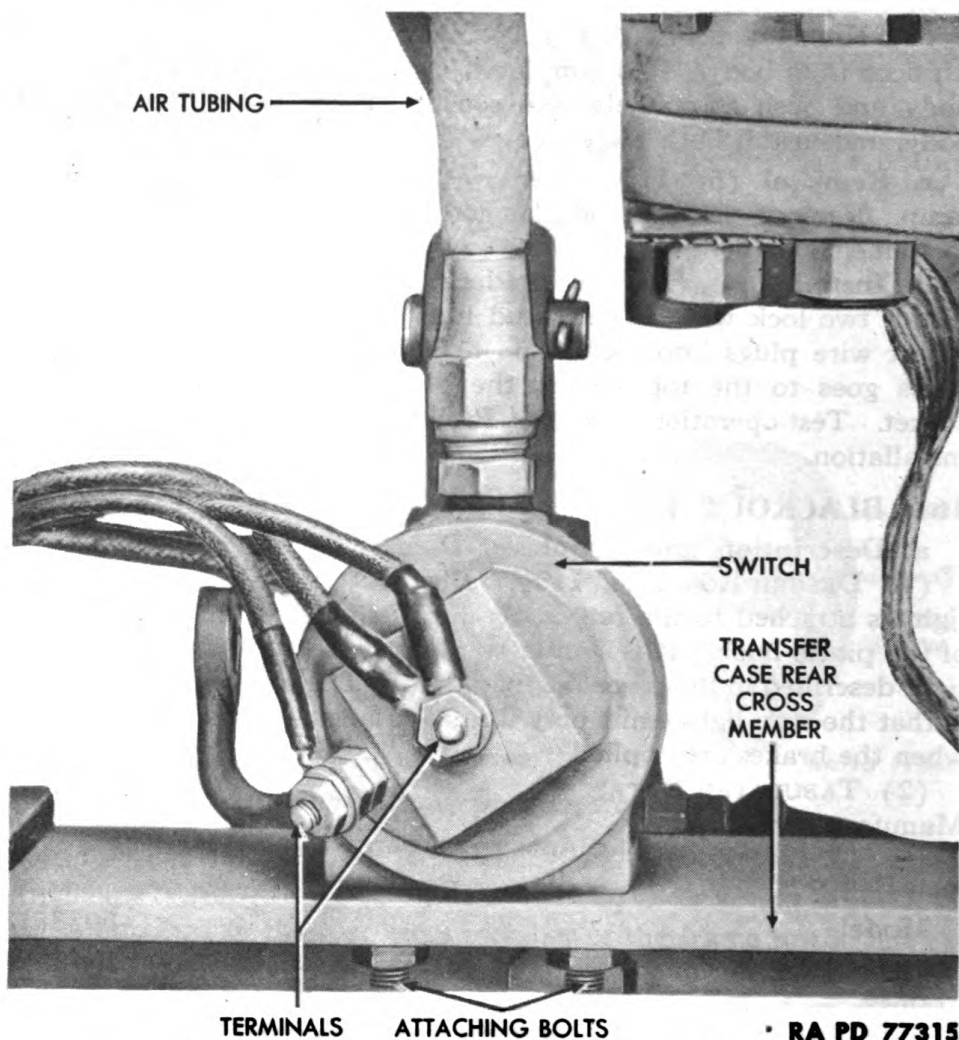

Figure 111 - Stop Light Switch Installed
(1) **DESCRIPTION** (fig. 111). The stop light switch is mounted on
b. Removal (fig. 111). Disconnect wires from terminals on switch. Disconnect air tubing from fitting on switch. Remove two nuts, lock washers, and bolts which attach switch to frame.
c. Installation (fig. 111). Place switch in position on transfer case rear cross member. Install the two bolts, lock washers, and nuts which attach switch to frame. Connect air tubing from double check valve to switch. Connect two yellow wires to one terminal of switch. Connect black wire to other terminal. Start engine and build up air pressure. Test operation of stop lights. Inspect switch for air leakage. Proper functioning of stop lights and absence of air leaks indicate satisfactory installation.